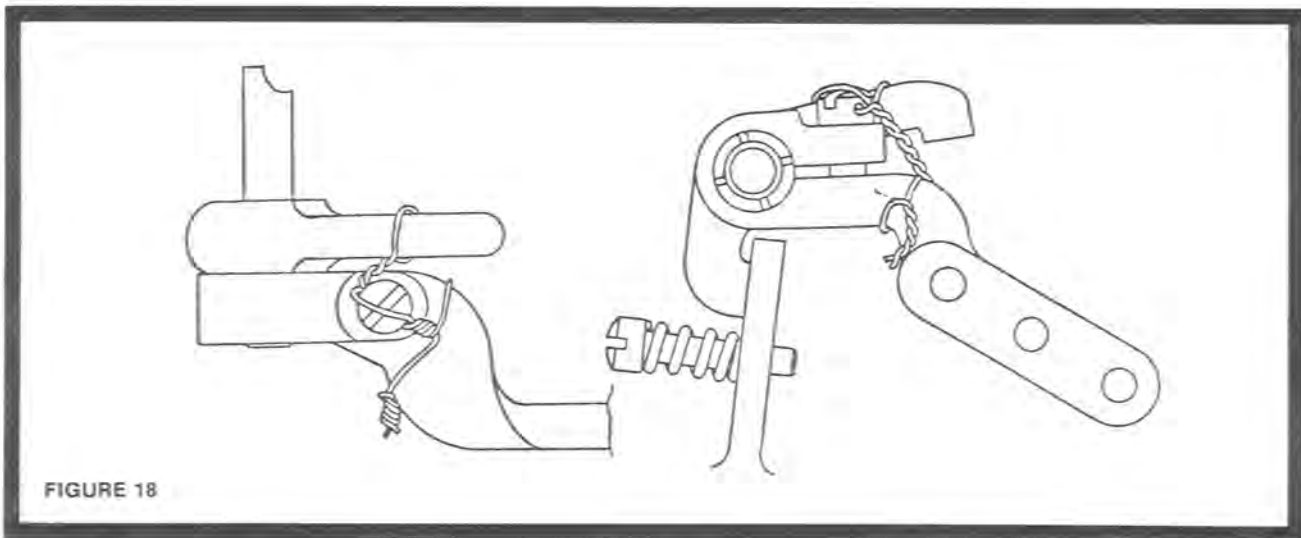

FIGURE 18
- 46) Install float bracket (64) with screws (63). These are long loc self safetying screws requiring no additional safety features.
- 47) Slide throttle opening spring (14) (if used) over the end of shaft (34) and insert the end through the hole in casting web. Install accelerating pump lever (13) and secure in place with its
screw (12). Insert the throttle opening spring end through the cross hole drilled screw (12) to safety and bend the end of the spring over to secure. Place throttle lever (31) at proper angle location on throttle shaft and secure with retaining nut (30) torqued to 20-60 inch pounds. Install cotter pin and bend. NOTE: Carburetor without the throttle lever locknut retaining feature on the end of the throttle shaft must have the throttle lever safety wired as shown in figure 18.
- 48) Insert the pump (11) carefully through the packing and install pump link (10) and cotter pins (9).